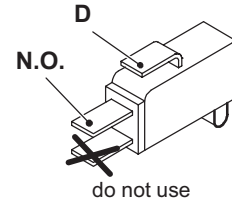

Figure 12.3
- 2 Measure the electrical resistance between the tabs marked D and N.O. (Figure 12.3).
- 4 Re-assemble the parts in reverse order of removal. Refer to Figure 12.3 for the correct wiring connectors on the switch